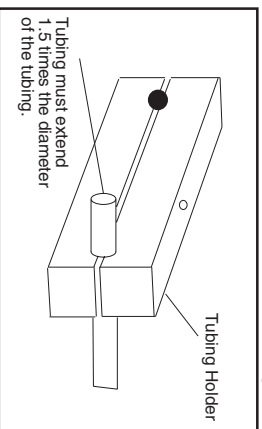

Figure 2
2. Place the cut end of the tubing into the tubing holder allowing for a length of approximately 1.5 times the outside diameter to protrude (Figure 2).